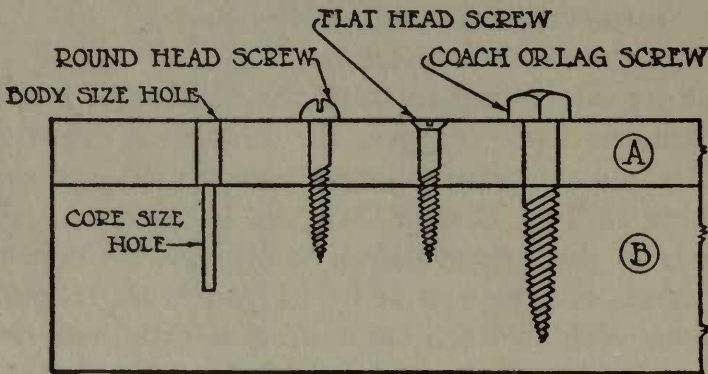

Fig. 34.
1. Carefully locate the centers for the screw holes in the piece A (Fig. 34) thru which the screws are to pass.